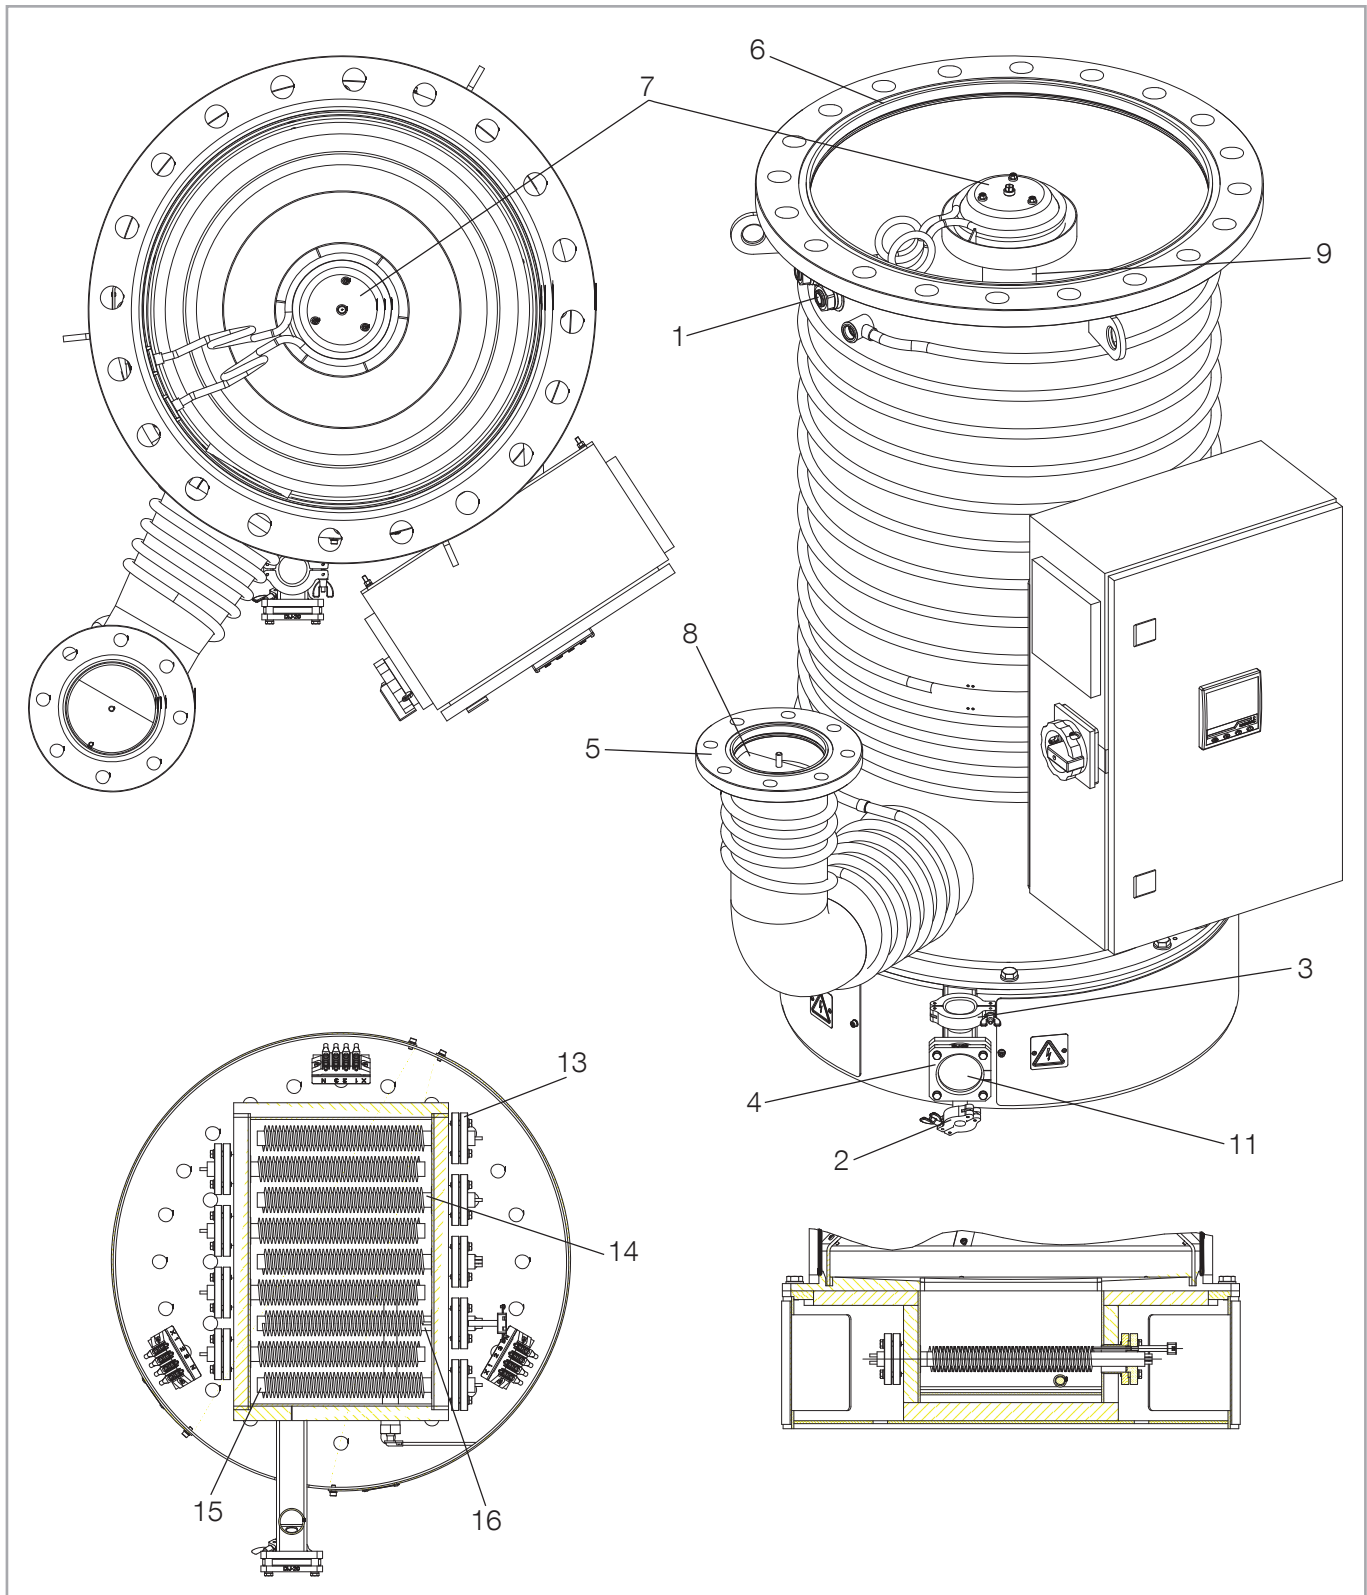

Fig. 15 Overall view of the DIJ 20; other models are similar
- With exchanging the pump fluid it is mandatory to replace the two gaskets at the filling port and the drain port (cf. Fig. 15)!
When assembling the pump ensure that the individual components are again mounted in the correct order (see Fig. 15).